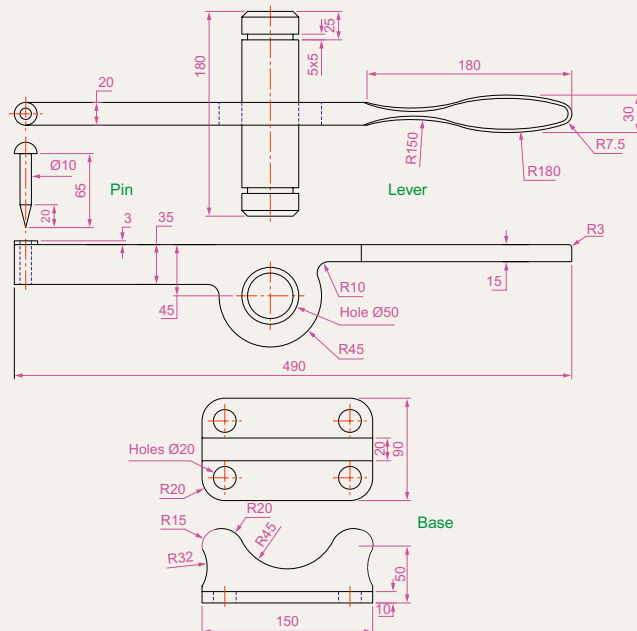
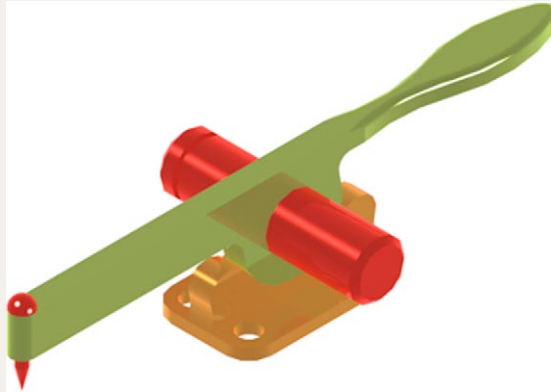

Fig. 17.38 Exercise 4 – details of shapes and sizes
Fig. 17.39 Exercise 4 – a rendering
4. A point marking device is shown in two two-view projections (Fig. 17.38). The device is composed of three parts – a base, an arm and a pin. Construct a 3D model of the assembled device and add appropriate materials to each part. Then add lighting to the scene and render in an **SW Isometric** view (Fig. 17.39).